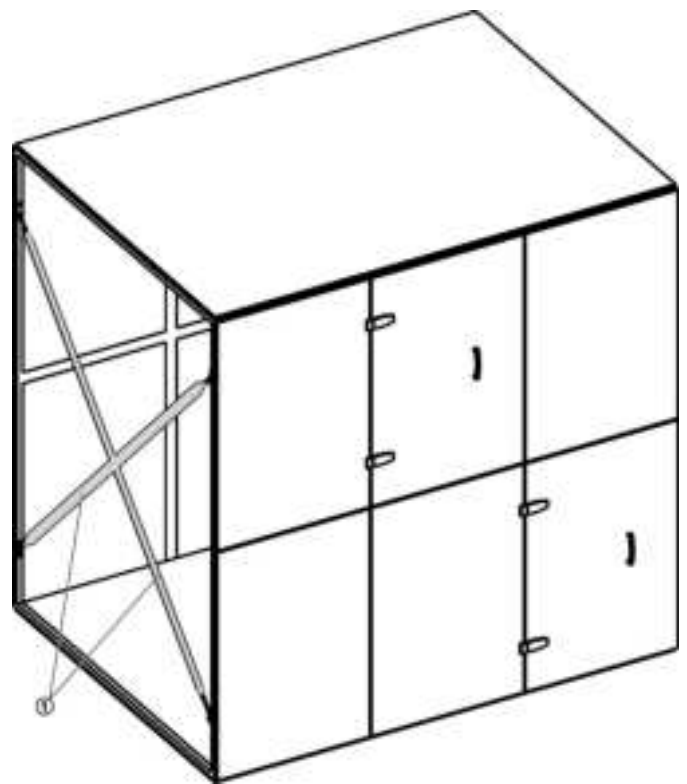

Fig. 7: Transport straps
- ▶ Cut the transport straps (Fig. 7 /1) and remove them completely.